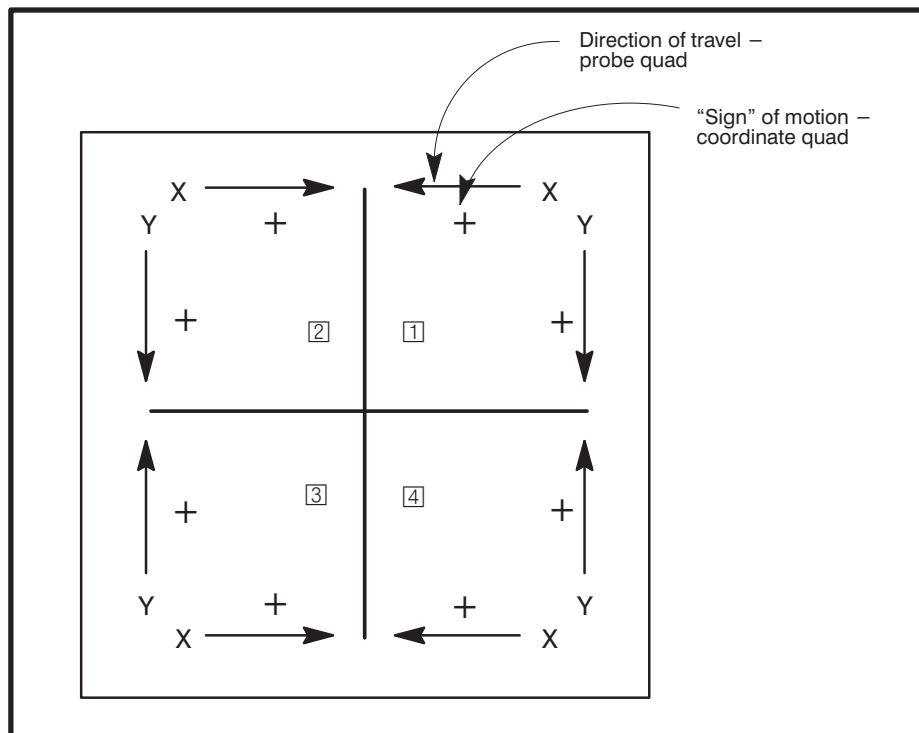

FIGURE 10-6: POSITIVE XY DIRECTIONS VS. PROBE QUADRANT
The coordinate quadrant parameter affects the way the prober reports its position. Setting the coordinate quadrant (Probe Mode Menu, Line 02) causes the prober to log XY positions and directions according to the definitions in *Figure 10-6*. In effect, the prober performs a coordinate transformation as it probes.
2. Using the joystick, position the probe tips over the target die to be read for the bincode stored in the map. The bincode will appear on the Run Time Display (*Figure 10-6*).